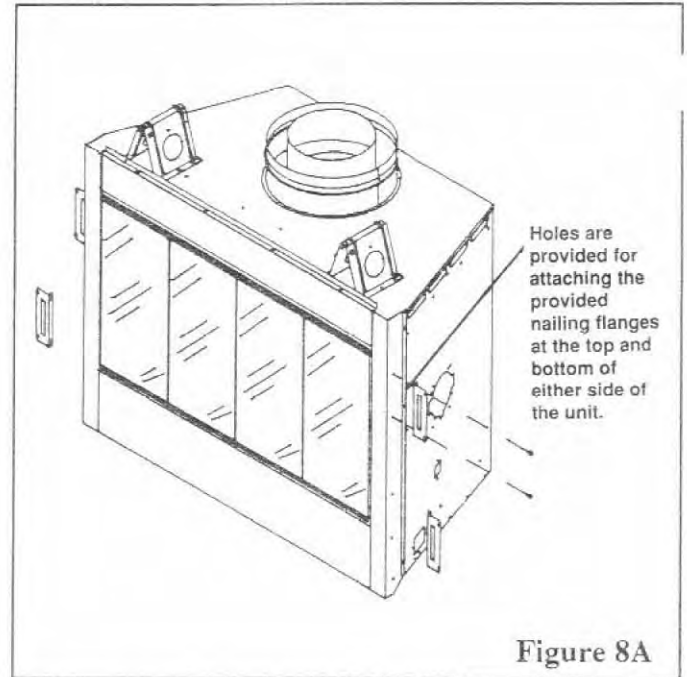

Figure 8A
STEP 2: Install the provided nailing flanges to the fireplace (as shown in Figure 8A) and position the fireplace into the framing. Do not secure yet.